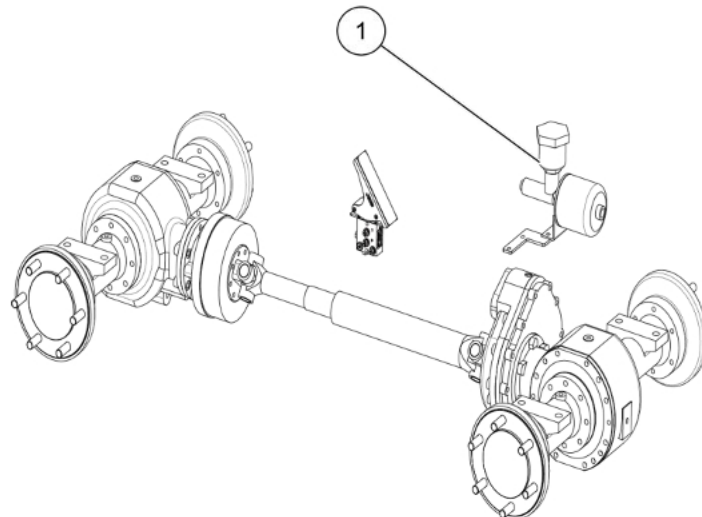

Figure 6-27 Brake fluid tank
Step 2: Open the engine hood and check the brake fluid level. If the brake fluid is lower than 1/3 of the height of the brake fluid tank (1), add the same type of brake fluid. The brake fluid should not be higher than 2/3 of the height of the brake fluid tank, as shown in Figure 6-27;